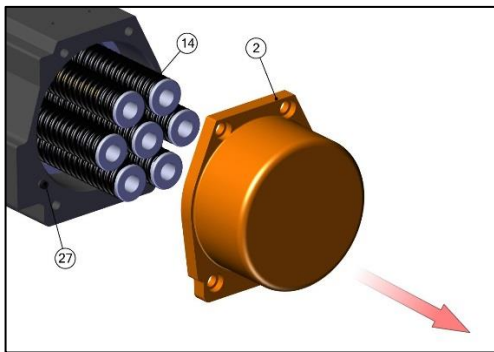

Fig No.13
- Then completely unscrew the bolts & remove the end cap & spring assembly (14). (refer Fig No.13)